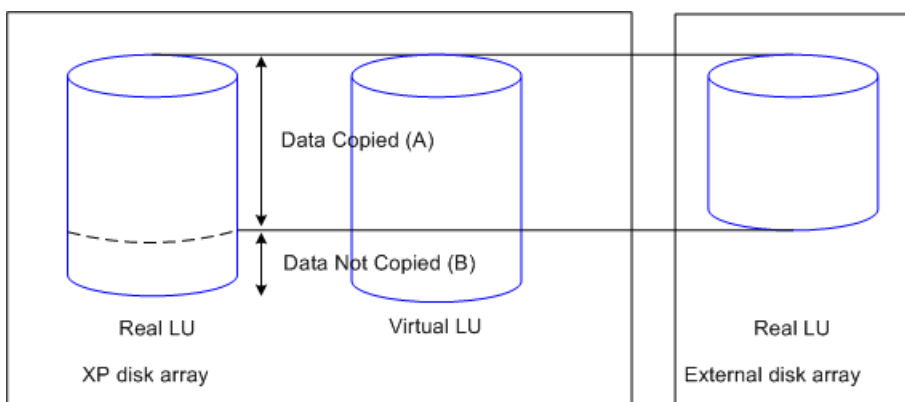

Figure 348: Data Copy Range of Copy Processing for Flex Copy
Figure 348 shows the range of the data copied when the capacity of the real LU of the external disk array is less than that of the XP disk array. In this case, Flex Copy uses the capacity (A) of external LU as the data copy range for copy processing. Data stored in the range above the capacity (B) of the real external LU is not copied.
In the example shown in Figure 348, if you copy data from the external disk array to the XP disk array, the data (A) in the external disk array is completely copied to the XP disk array. However, if you try to copy data in the reverse direction (i.e. all the data (A + B) in the XP disk array to the external disk array), some of the XP disk array data (B) cannot be copied.